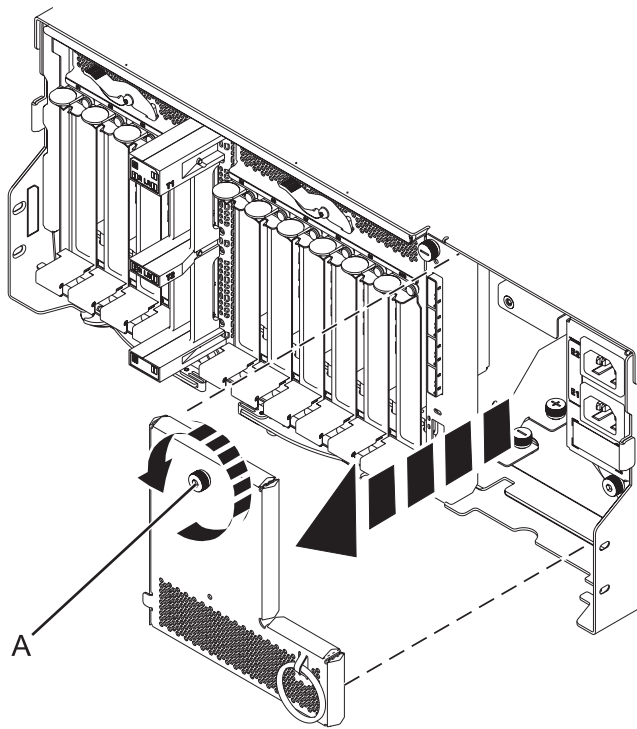

Figure 91. Removing the power cord plate
10. Remove the power cord plate by turning the thumbscrew (A) and pulling the plate away from the system, as shown in Figure 91.